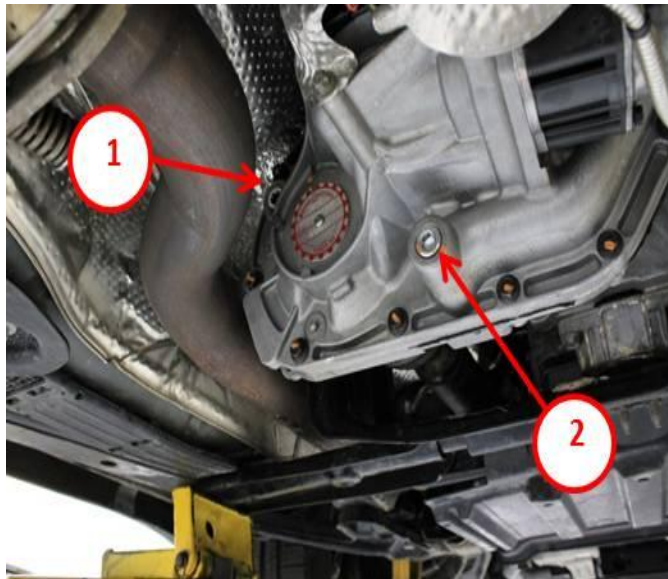
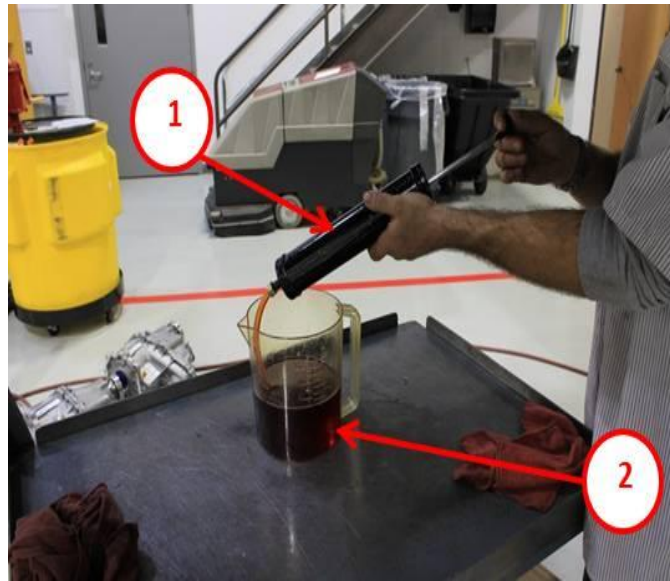

Fig. 2 Transfer Case Fill And Drain Plug Location
Fig. 4 Using Suction Gun To Fill Transfer Case
2. Place oil drain pan (Fig. 1) under drain plug (Fig. 2).
6. Remove the fill plug (Fig. 2). Then, using a suction gun, fill the transfer case with 2 quarts (1.9 liters) of Mopar ATF+4 Transmission Fluid (p/n 05013457AA).
13. Remove the fill plug (Fig. 2). Then, using a suction gun (Fig. 4), fill the transfer case with 2 quarts (1.9 liters) of Mopar ATF+4 Transmission Fluid (p/n 05013457AA).